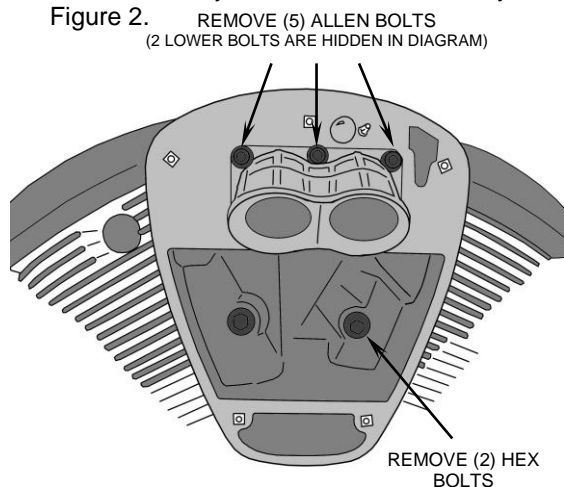

FIGURE 1
1. Remove the (4) bolts that hold on the stock air cleaner cover. Once the cover has been removed, loosen the top bolt to remove the filter from air box.
2. Remove the air box by loosening the (5) allen bolts around the air inlet and the (2) hex bolts from the lower portion of the air box. See Figure 1. Disconnect the (2) hoses, idle adjuster and air temperature sensor connector from the air box.